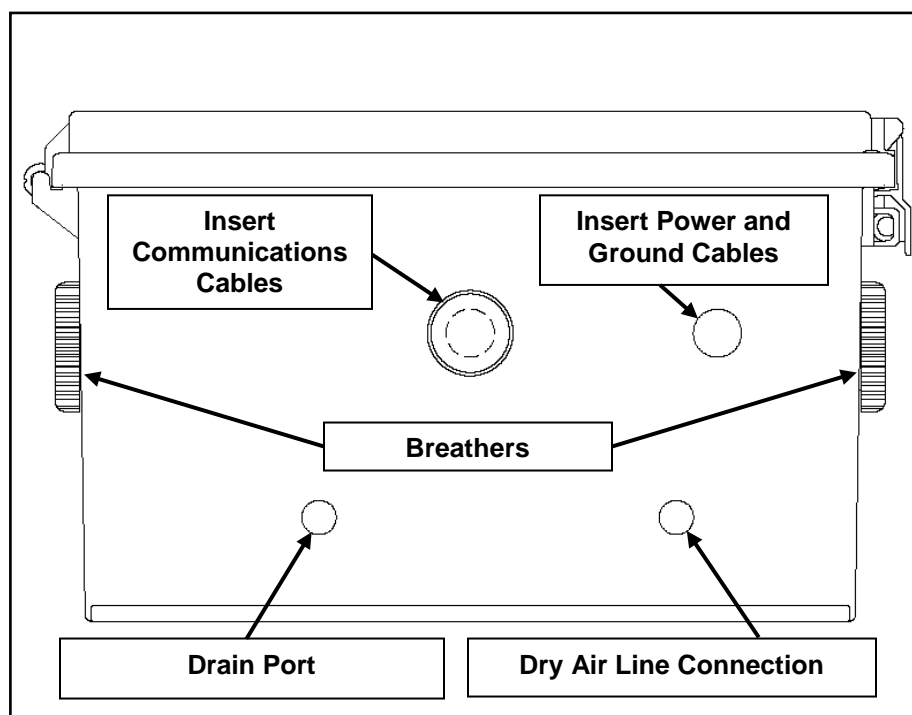

Figure 4. BASE OF NEMA ENCLOSURE.
3. At this time, make the drain port connection. For this step, there are two options, as desired, depending on the installation location and function. Refer to Figure 4. Either carefully connect the bronze muffler to the fitting on the drain port (to serve as a moisture diffuser), or connect an 1/8" NPT male end barbed hose fitting to the drain port fitting, attach a hose, then route the hose to a facility drain.
7. Two breathers are located on the enclosure, one on either side, as shown back in Figure 4 in this appendix. They allow air into the enclosure. Do not remove the breather caps. They are specially designed to let air into the enclosure, while preventing water and dust entry. Turn the breather caps clockwise at this time just to make sure they are properly seated.